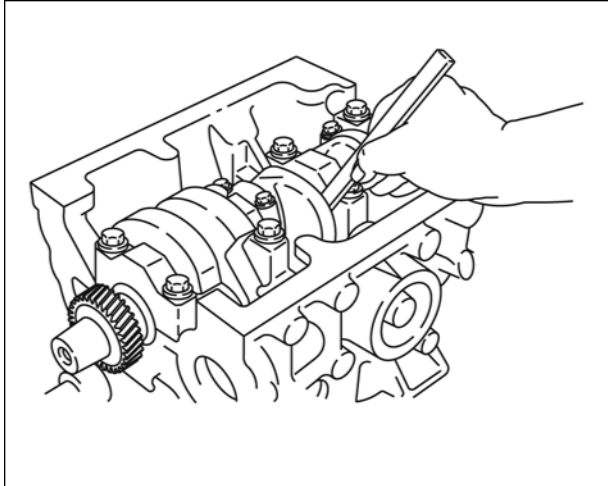

Figure 10
1. With thrust washers installed, check crankshaft end play at #3 main bearing (Figure 10).